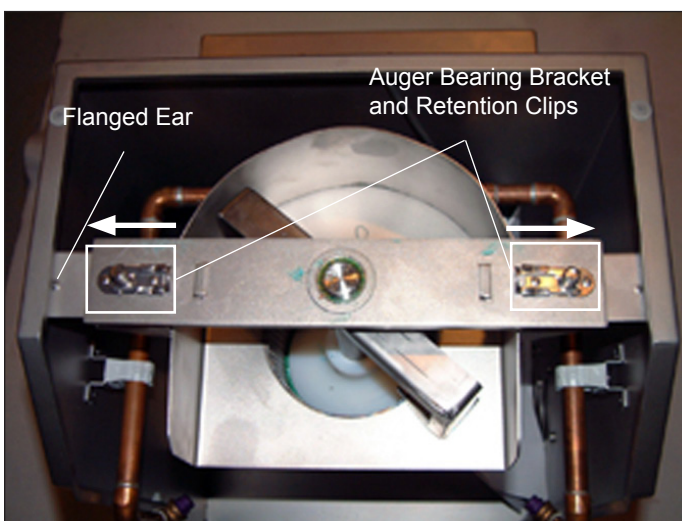

Figure 17. Auger Bearing Bracket and Fasteners
3. Release retention clips on auger bearing bracket by moving inward and remove bracket (Figure 17).
5. From underneath, install threaded end of pin assembly through hole in cabinet flanged ear (Figure 17). Install flat washer and nut. Do not overtighten.
7. Slide retention clips outward toward ends of bracket (Figure 17).